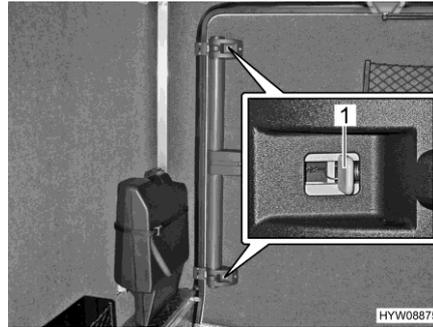

Fig. 52 Garage door (interior emergency release)
- Press the grey slider (Fig. 52,1) of the upper and lower lock toward the centre of the door.